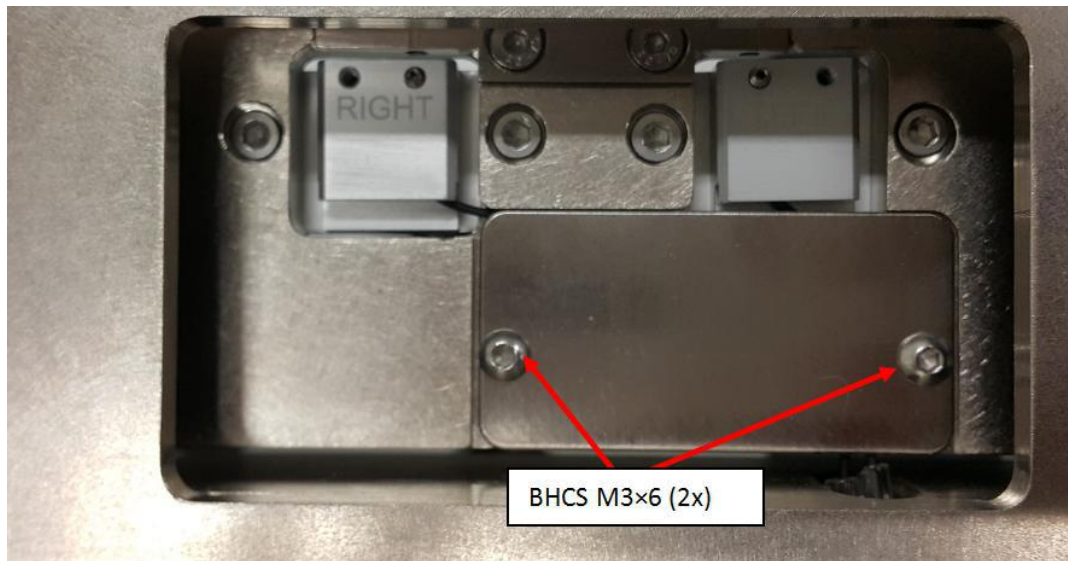

Figure 14 Sensor 3 Receiver
1. For sensor 3 Receiver, remove BHCS M3×6 (2x) as shown in Figure 14.